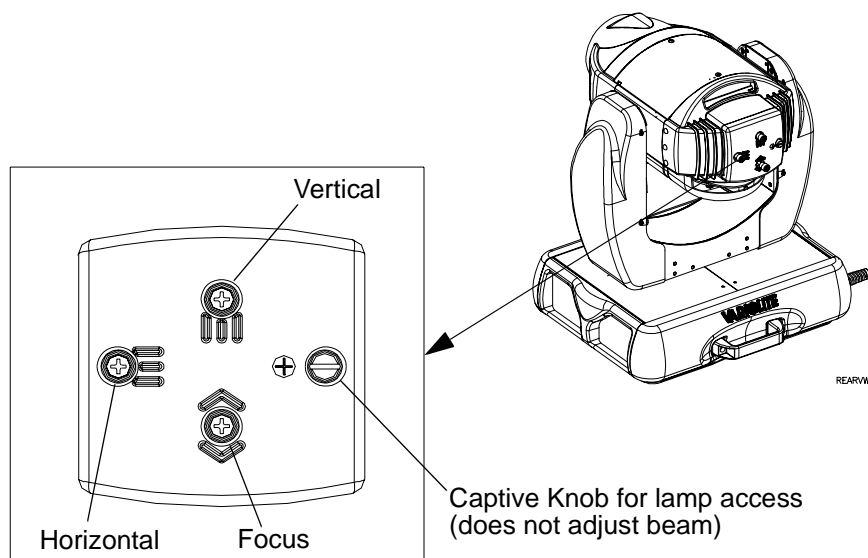

Figure 2-2: Lamp Alignment
- Step 5. At back cap, using vertical and horizontal knobs, adjust hot spot to center of beam. **Figure 2-2.**